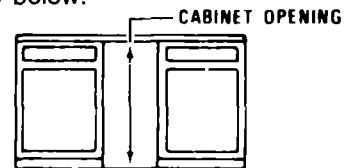

FIGURE 8
8. Before moving the compactor into position, measure the cabinet opening as shown in Figure 8. To determine if height adjustment is required, see steps 9 and 10 below.